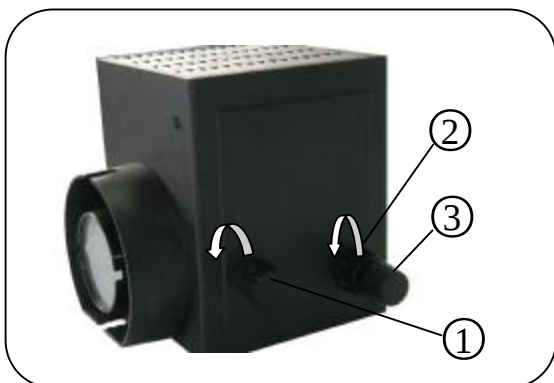

Fig. 19.
12. Light source adjustment (Fig. 19.)